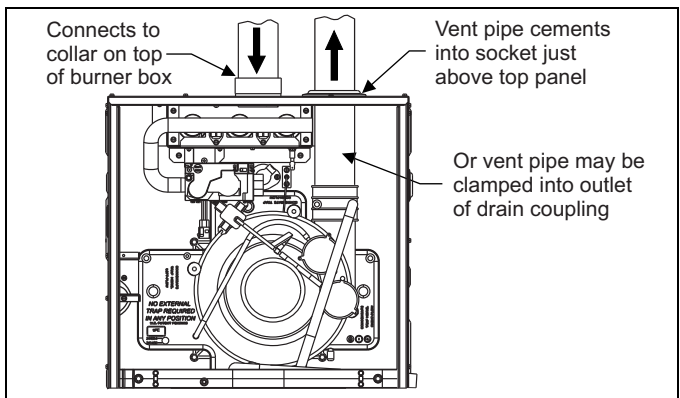

FIGURE 37: Direct Vent Air Intake Connection and Vent Connection
1. **OUTDOOR COMBUSTION AIR:** This is a direct vent configuration where the combustion air is supplied through a PVC or ABS pipe that is connected to the PVC coupling attached to the furnace and is terminated in the same atmospheric zone as the vent. This type of installation is approved on all models. Refer to Figure 37.
This installation requires combustion air to be brought in from outdoors. This requires a properly sized pipe (Shown in Figure 37) that will bring air in from the outdoors to the furnace combustion air intake collar on the burner box. The second pipe (Shown in Figure 37) is the furnace vent pipe.